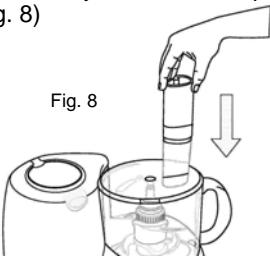

Fig. 8
7. Keep hands and utensils away from the cutting blade while chopping food to reduce the risk of severe injury to persons or damage to the food processor. A scraper may be used, but **ONLY** when the food processor is **NOT** running and has been unplugged. **Never** feed food by hand. Always use the food pusher. (Fig. 8)